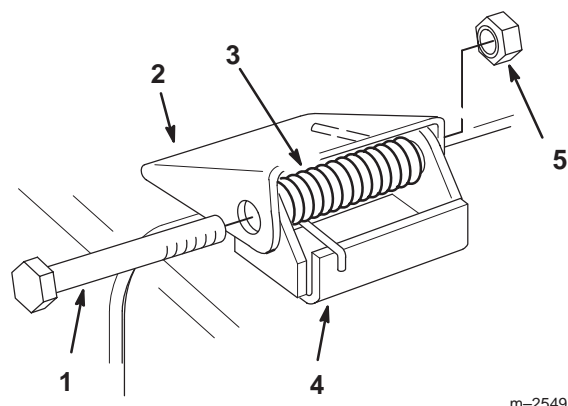

Figure 3
1. Locate the deflector mounts over the pivot brackets and secure with 2 bolts (3/8-3-3/4 in. (95 mm), 2 springs and 2 locknuts (3/8 in.). Make sure the straight ends of the springs are positioned between the deflector mounts and the grass deflector (Fig. 3).
2. Tighten the locknuts until they contact the pivot brackets (Fig. 3).